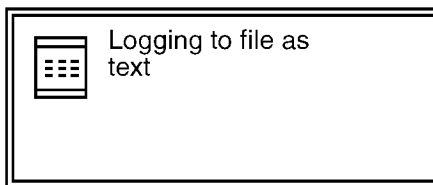

Figure-4.63 Logging Note Window.
4. Type a valid DOS file name (up to eight characters with no extension) and press <Enter>. Include the path with the file name if different than the current path. A .TXT extension is added automatically when the CI creates the file. The CI displays the following screen (Figure-4.63).